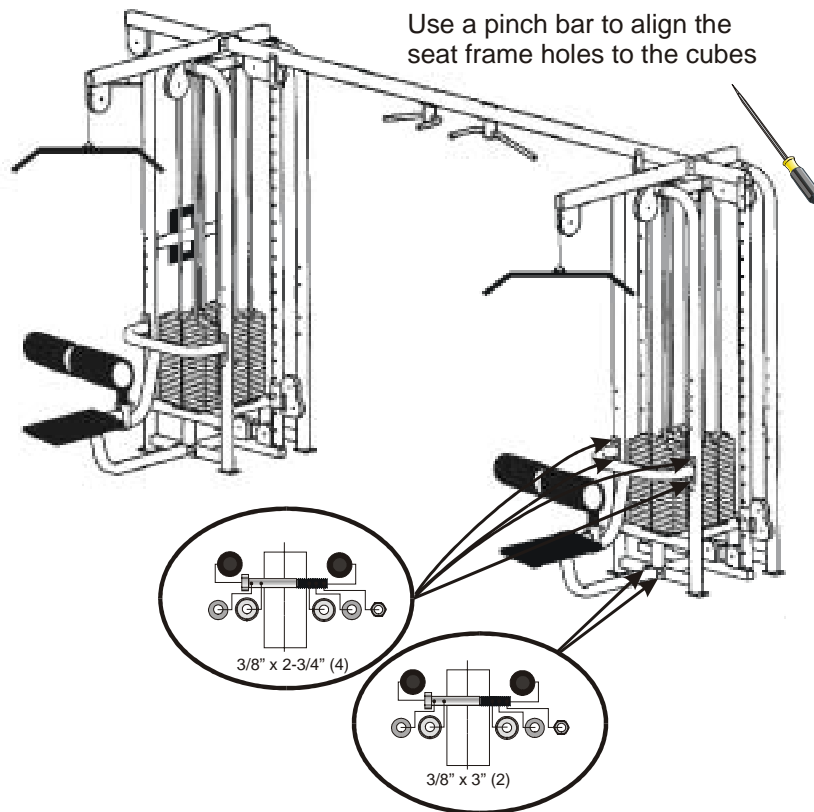

Figure 14. Mount the benches to the frame.
8. Mount the seated row and lat benches to the frame. Using the bolts specified in Figure 14 and a 9/16" socket and combination wrenches, mount the benches as shown in Figures 14 and 15.